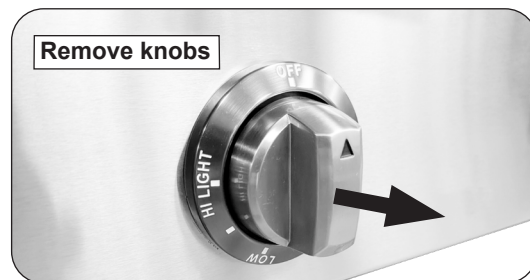

Fig. 37-1 Remove knobs
2. Pull the control knobs directly outward from the stems, and set them aside (see Fig. 37-1).